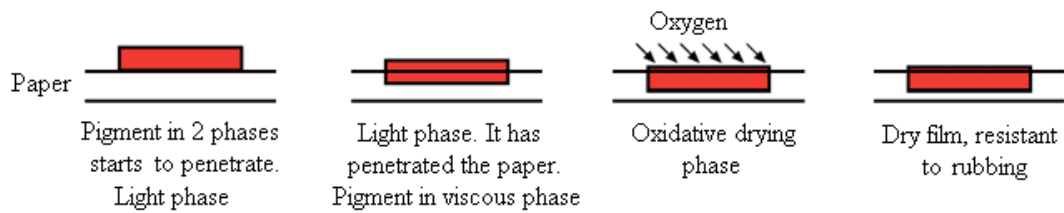

Fig. 14: Process of drying inks by selective filtration.
- **Selective filtration.** The layer of ink is placed on the paper and then the absorption of mineral oils begins. The ink becomes more viscous and causes the oxidation of the plant oils and resins (fig. 14).